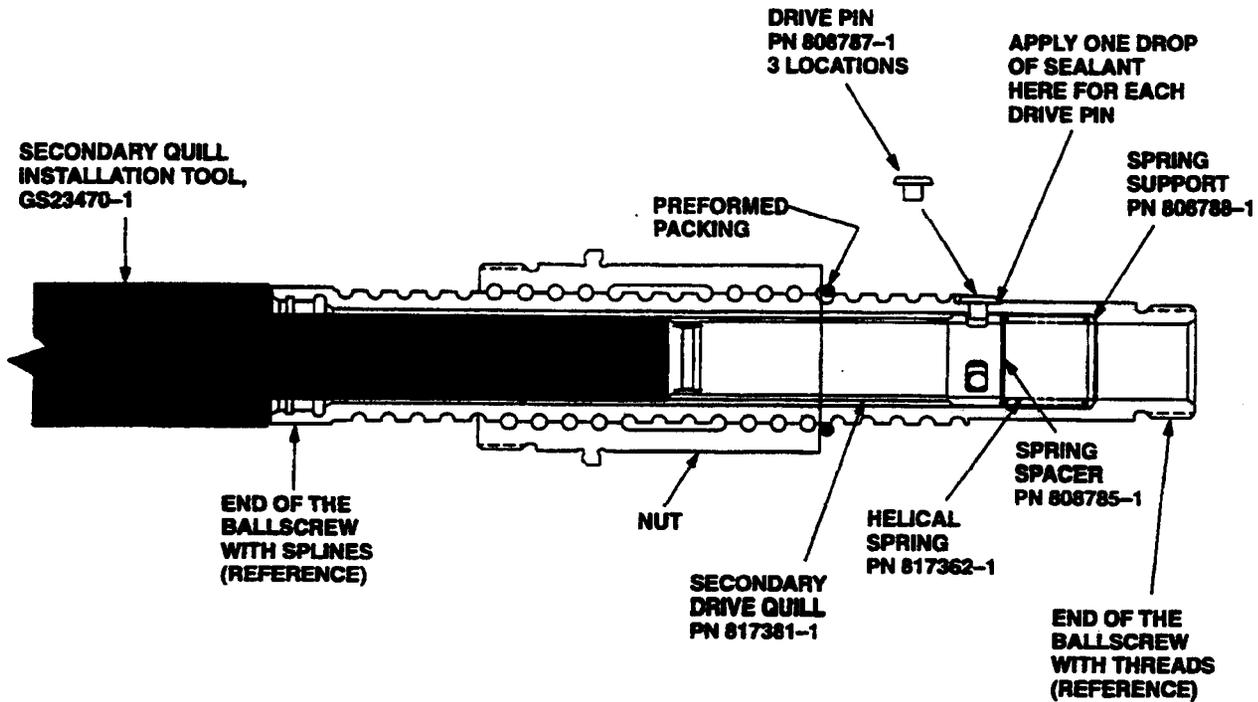

Figure 7. Install the New Secondary Drive Quill Parts
- (4) Refer to Figure 7 and install the new secondary drive quill and related parts in the servo ballscrew PN 790102-4 as follows:
- 1 Install a preformed packing or equivalent device on the servo ballscrew from the end where the temporary shipping collar is installed. A preformed packing such as PN M83248/1-115 will fit correctly. Move the packing along the ballscrew until it is against the nut, as shown in Figure 7, so that the nut can not move in the direction of the collar.
- (d) Install the new spring support PN 808788-1 into the ballscrew through the end of the ballscrew that has internal splines (refer to Figure 7). The side of the spring support that has a chamfer must point to the end of the ballscrew that has threads.
- (g) Install the secondary quill installation tool, GS23470-1 (782490-T-21), in the ballscrew as shown in Figure 7. Turn and push on the tool to align the secondary drive quill so that you can install the 3 drive pins as follows:
- 1 Apply one small drop of sealant, Loctite 290, to the area between the head of each of the 3 drive pins and the flat surface that they touch on the ballscrew, as shown in Figure 7. Loctite 290 is available from: